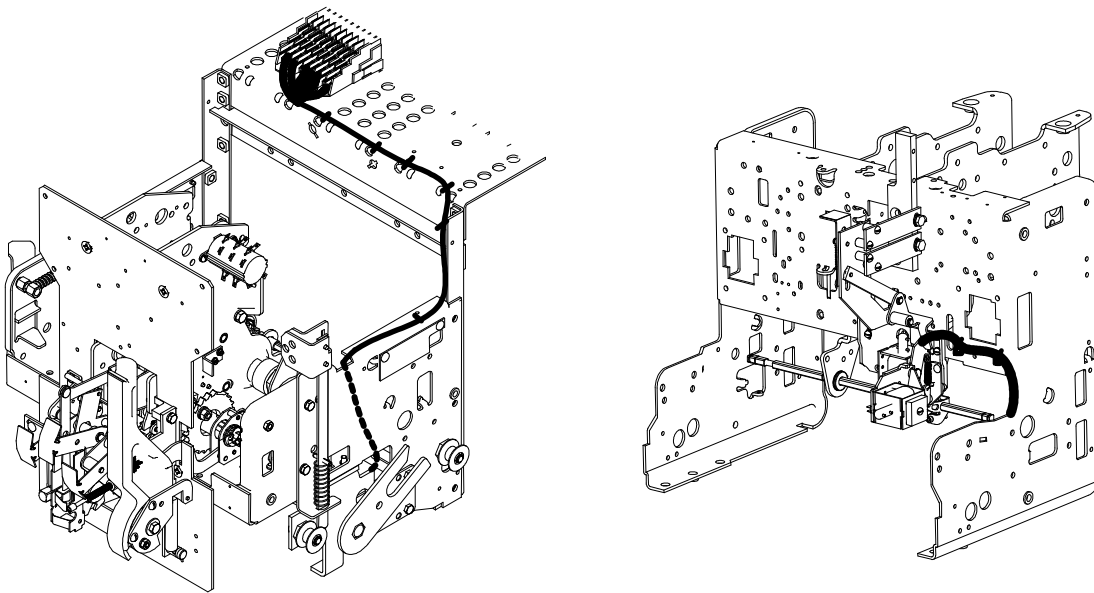

Figure 8. Wire routing from the Network Interlock to the secondary disconnect. Left – side view. Right – bottom view.
16. Route the wires from the Network Interlock to the secondary disconnect as shown in Figure 8 and secure them with cable ties.